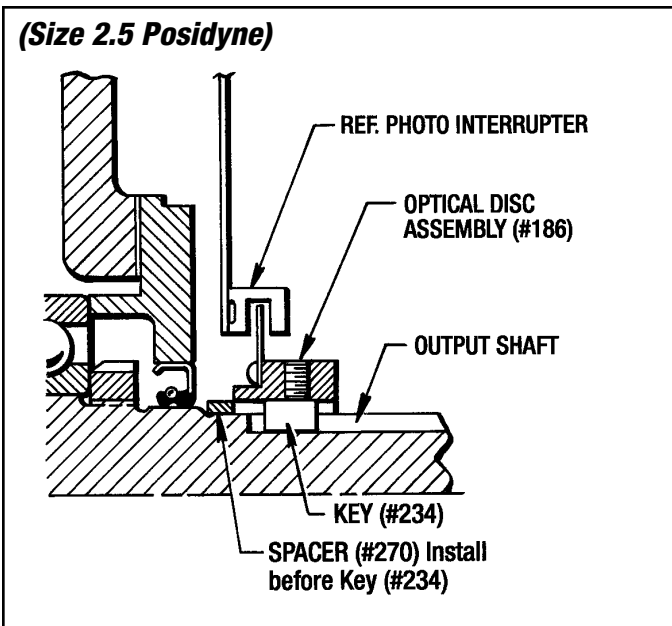

Figure 6.4 - Optical Disc and Hub Positioning (Size 2.5 Posidyne)
- First slide the Spacer (#270) onto the output shaft as far as it will go. Install Key (#234), then slide the Optical Disc Assembly onto the output shaft, butting it up against the Spacer. (See Figure 6.4)